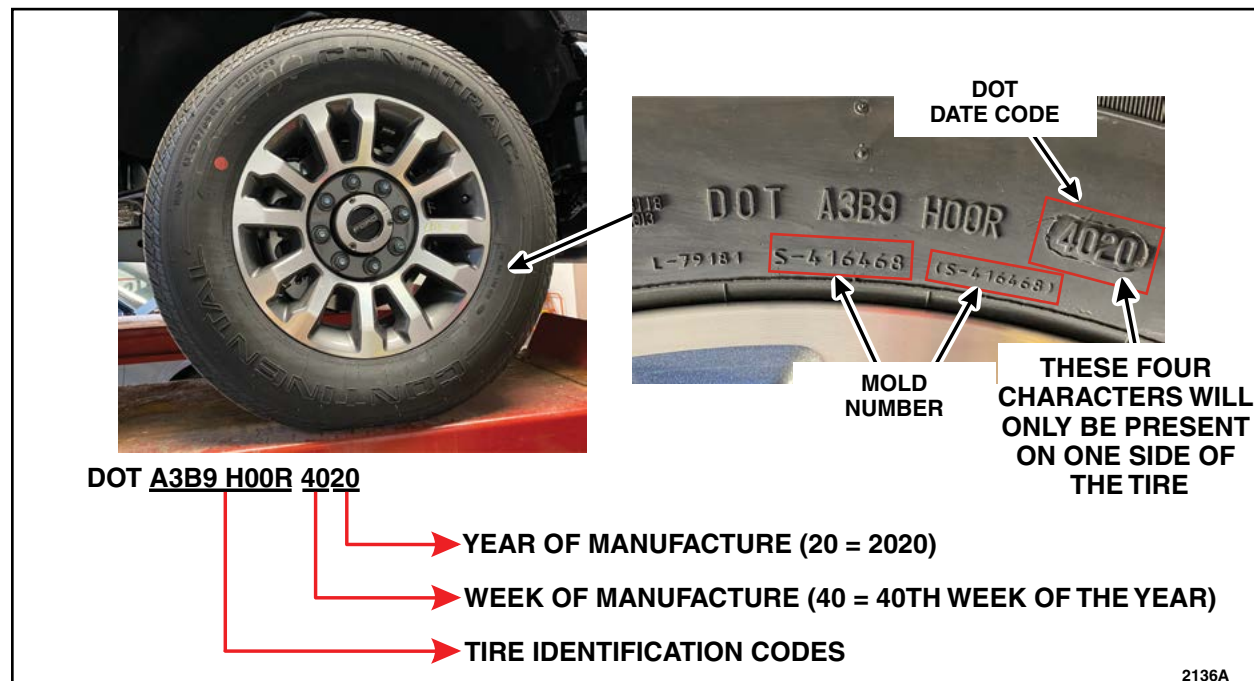

FIGURE 1
1. Locate the 12 character DOT code and the 6 digit mold number on the four road tires. The original factory installed tires are mounted with the 12 character DOT code on the outboard sidewall (only the first eight characters will be present on the opposite sidewall). If the last four characters are not on the outboard side, they will be present on the inboard side. See Figures 1 and 2.